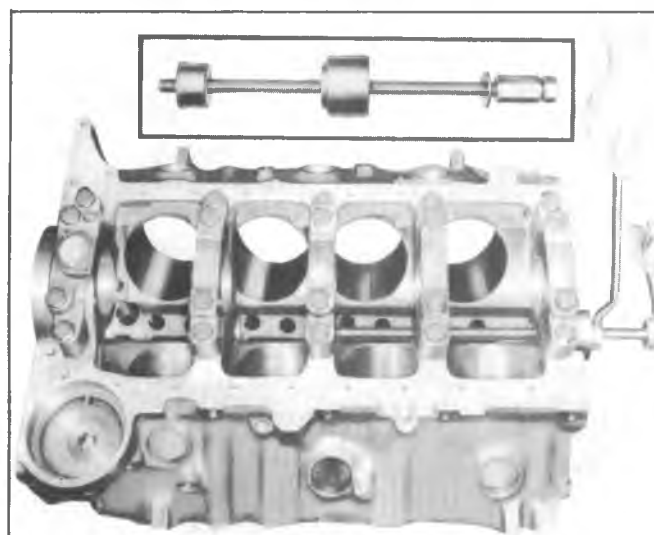

Fig. 6A5-38--Removing Camshaft Bearings
4. Using two wrenches, hold puller screw while turning nut. When bearing has been pulled from bore, remove remover and installer tool and bearing from puller screw (fig. 6A5-38).
6. Assemble remover and installer tool on driver handle and remove camshaft front and rear bearings by driving towards center of cylinder block (fig. 6A5-39).